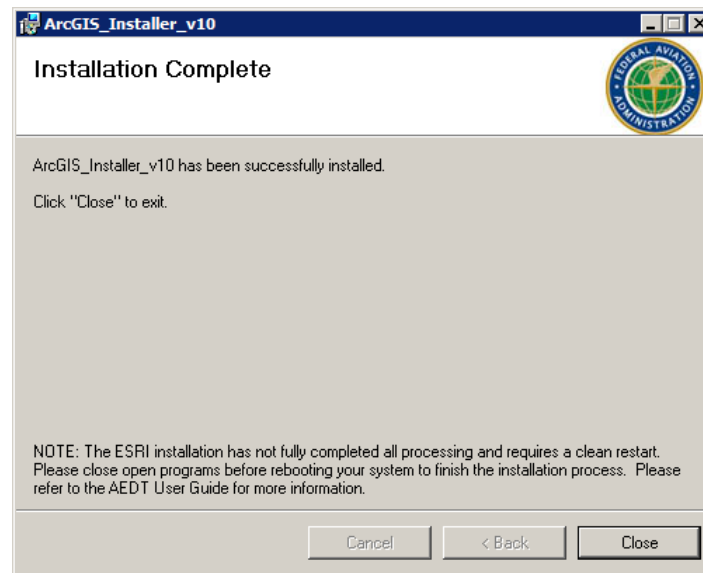

Figure 2-14 ArcGIS Setup Wizard –Installation Complete
6. The installation progress will be displayed. Once the installation is complete, click *Close* to exit the Setup Wizard (Figure 2-14).